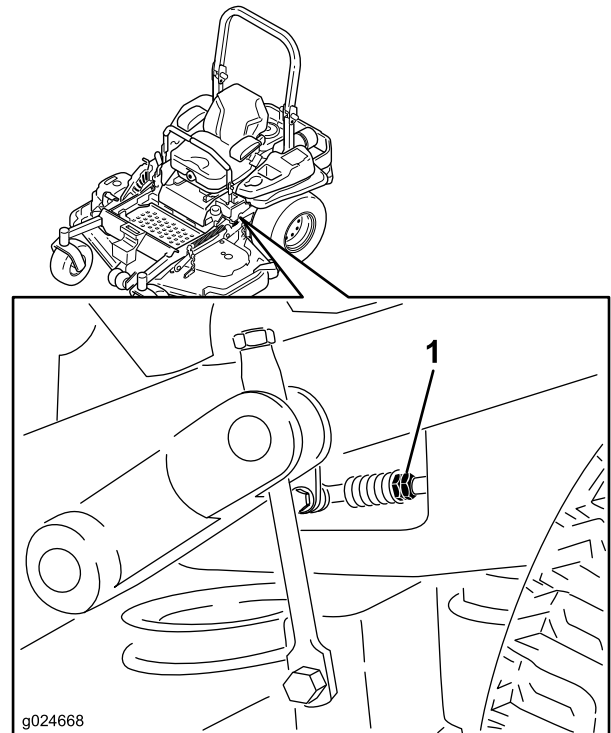

Figure 76
8. Adjust the pump control rod lengths by rotating the double nuts on the rod in the appropriate direction until the wheels slightly creep in reverse (Figure 76).